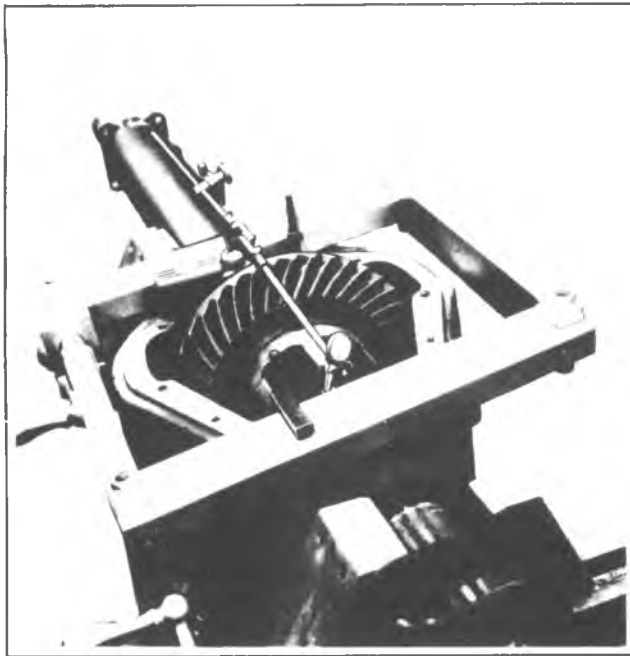

Fig. 15F—Tool J-24385 Mounted on Carrier
7. Using spreader Tool J-24385 and dial indicator as shown in figure 15F, spread carrier a maximum of .020".
1. Spread differential carrier, using spreader as shown in figure 15F.